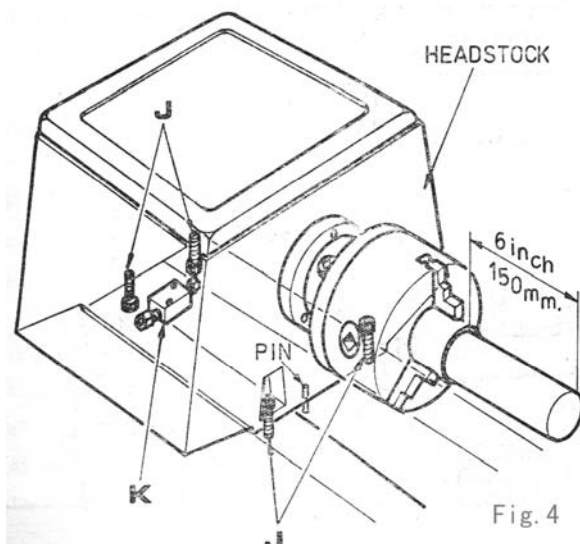

Fig.4
not supported at the free end. Micrometer reading at each end of the turned length (at A and B of Fig.4) should be the same.
To correct a difference in readings, slacken and release the four-headstock hold-down screws (J) shown in Fig.4 and adjust the set-over screw (K) beneath the headstock. Then tighten all screws, after adjustment and repeat the test-cut/micrometer-reading sequence until micrometer readings are identical, so machine now cutting absolutely parallel.